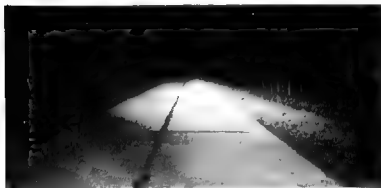

Fig. 15 Traffic (Lower) Beam
2. A traffic (lower) beam (Figure 15) is also provided and is low enough on the left side to avoid glare in the eyes of the oncoming drivers. It is intended for use on heavily traveled